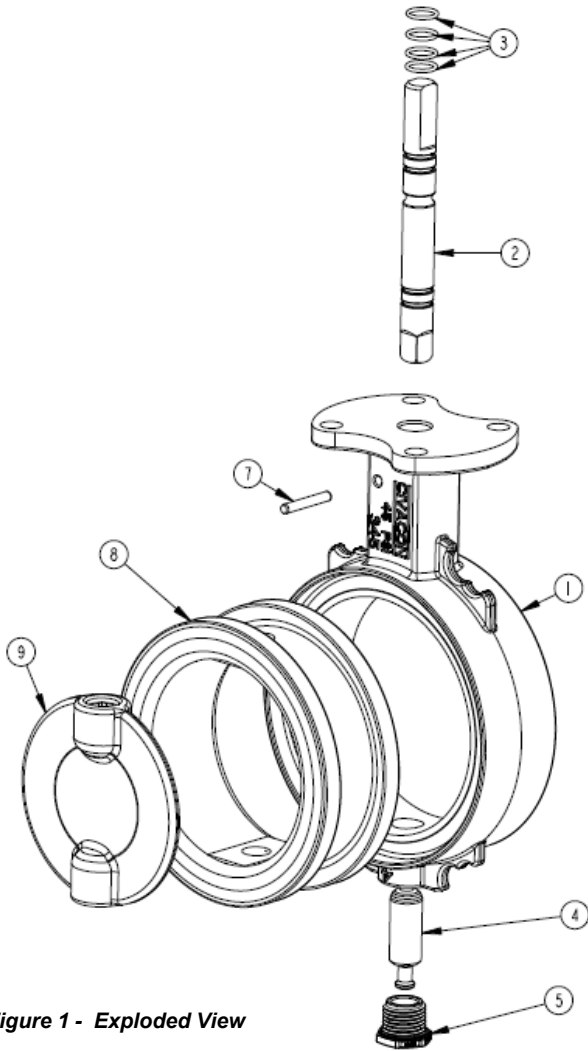

Figure 1 - Exploded View
1. Review Figure 1 before disassembling the valve
2. Remove dowel pin (7) using a punch and hammer. This will allow the top stem (2) to be removed with the valve handle or using a bench vice.
3. Remove bottom cap (5) and bottom stem (4) with a 15/16" wrench and pliers, respectively.
4. Once both the top and bottom stems are removed, replace the valve disk (9) and valve seat (8) with replacement components from kit.
5. Ensure that the holes in the valve seat (8) and valve disc (9) line up with the bore holes in the valve housing (1). Verify the valve disc (9) is installed with the round hole pointing in the direction of the bottom stem (4).
6. Re-Install the bottom stem (4) and bottom cap (5) into the housing (1).
7. Replace all 4 top stem O-rings (3) with replacement components from kit. Ensure to not damage top stem (2) during removal of O-rings and lube new O-rings after installed on top stem.
8. Re-Install the top stem (2) into the valve housing (1). Ensure that the flats on the stem are clocked parallel to the valve disc (9).
9. Re-install dowel pin (7) using a hammer. Make sure top stem (2) is fully inserted and held in place during installation of pin (7).